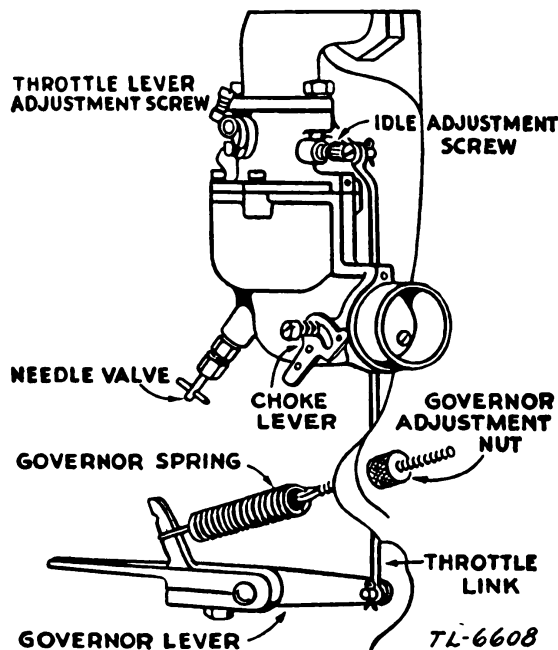

FIGURE 7. Carburetor and governor hook-up.
**d. Carburetor adjustment** (fig. 7). To adjust the carburetor, close the needle valve by turning it in a clockwise direction as far as possible. Do not tighten the valve with too much force since damage to the mechanism may result. From the closed position, open the needle valve 1 to 1¼ turns. After the motor has been started and warmed up, make the final adjustment with the choke wide open by turning the needle valve to the position at which the motor operates most smoothly under full load. This setting
## 10. GOVERNOR (fig. 7).